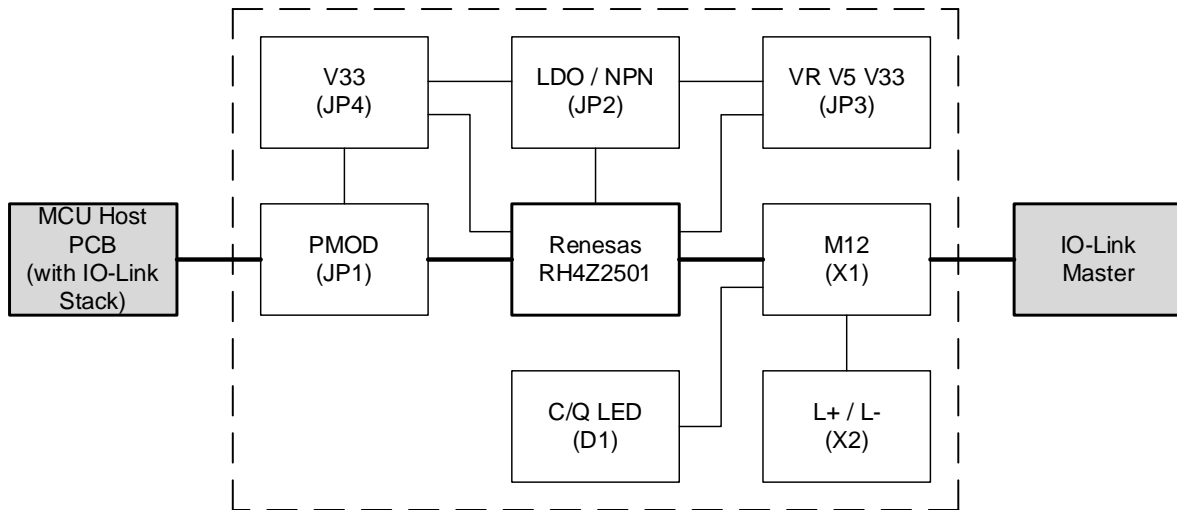

Figure 2. System Block Diagram
- Figure 2. System Block Diagram3
Figure 2 shows the system overview for the RH4Z2501-PMOD.